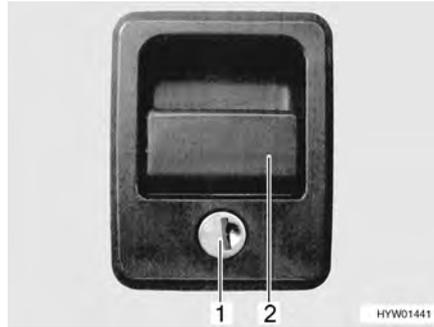

Fig. 36 Flap lock with recessed handle
- Insert key into locking cylinder (Fig. 36,1) and turn a quarter turn. The flap lock is unlatched.
- Pull on the lock handle (Fig. 36,2). The external flap is open.